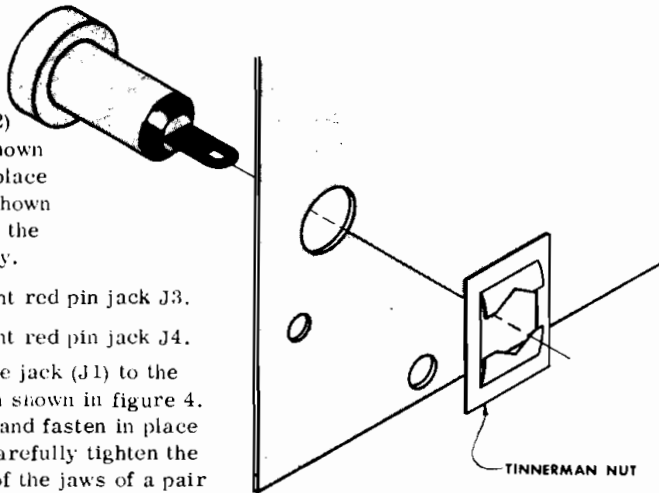
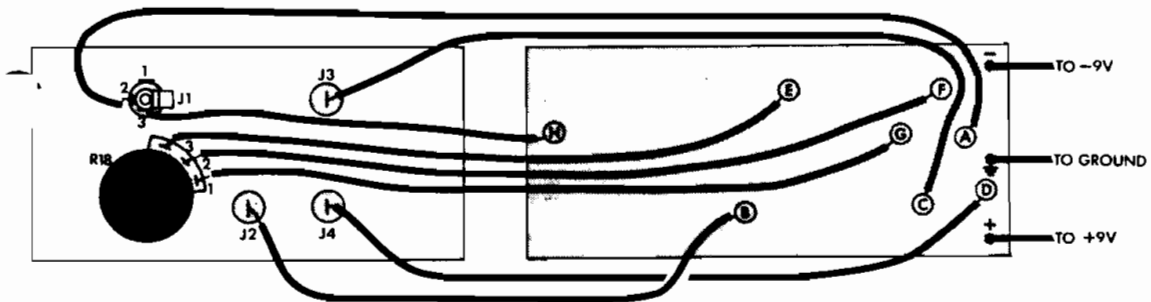

Figure 2 Pin jack mounting detail
Figure 4 Front panel wiring
- () Place the red pin jack (J2) in the hole provided as shown in figure 4 and fasten in place with a tinnerman nut as shown in detail figure 2. Press the tinnerman nut down firmly.
- () Mount the miniature phone jack (J1) to the front panel in the position shown in figure 4. Orient the jack as shown and fasten in place with the nut provided. Carefully tighten the nut by putting the points of the jaws of a pair small diagonal cutters into the notches in the nut and using the cutters as a spanner.
- () Mount the 5k linear taper potentiometer R18 in the position shown in figure 4. Use two 3/8 inch nuts, one behind the front panel as a spacer and the second on the front side of the panel to secure the pot. Adjust the rear nut so that none of the threaded shaft of the control is exposed when the front nut is tightened down. This will allow the control knob which will be mounted in a later step to seat as closely as possible to the panel. Orient as illustrated.
- () Solder the wire coming from circuit board point "A" to the center lug (#2) of miniature phone jack J1 as shown in figure 4.
- () Solder the wire coming from circuit board point "F" to the center lug (#2) of R18 as shown in figure 4.
- () Solder the wire coming from circuit board point "E" to lug #3 of R18 as shown in figure 4.
- () Solder the wire coming from circuit board point "H" to lug #3 of miniature phone jack J1 as shown in figure 4.